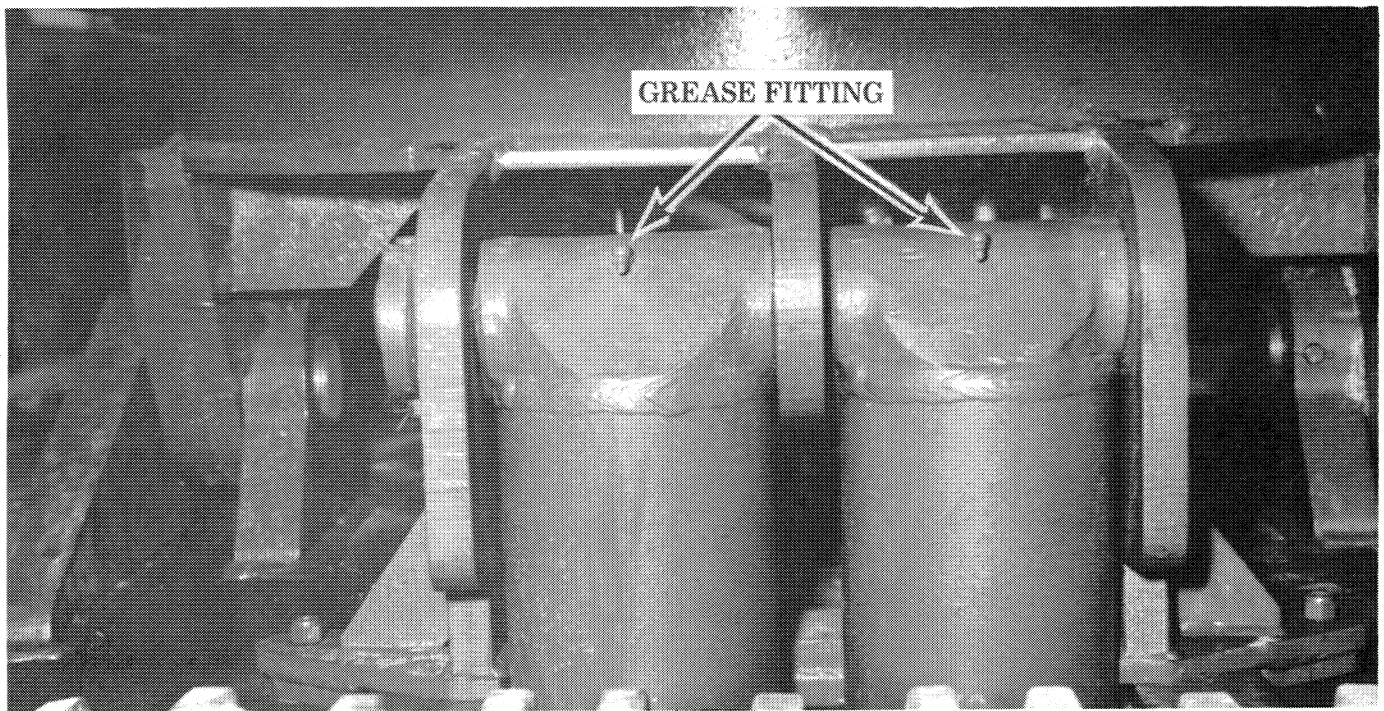

Figure 5. Grease Fitting On Top Of Leveler Cylinder.
**LEVELER CYLINDERS AND PIVOTS:** Lubricate daily. Make sure Leveler Locks are in position for safety while lubricating. Figures 5 and 9 show locations of fittings on Cylinders and Pivots.